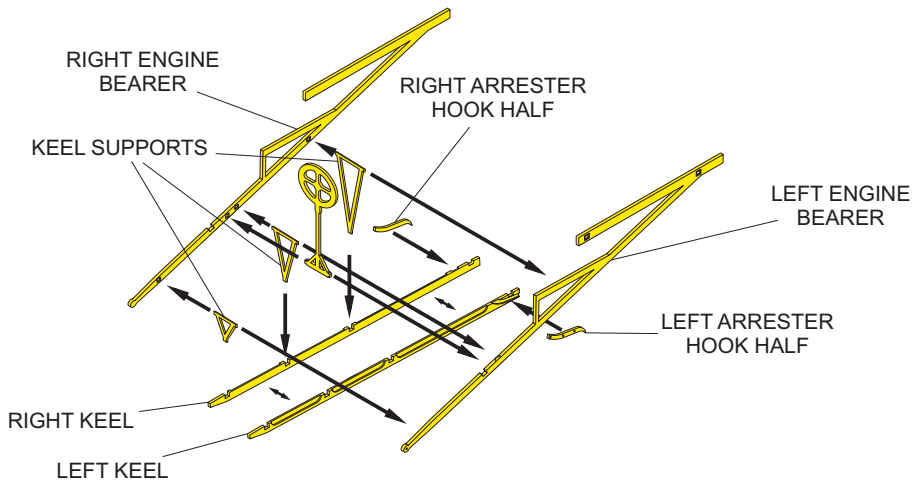

Figure 2
- A Bond the two halves of the keel together, then attach the two halves of the arrester hook in the recesses at the rear end of the keel (see Figure 2).